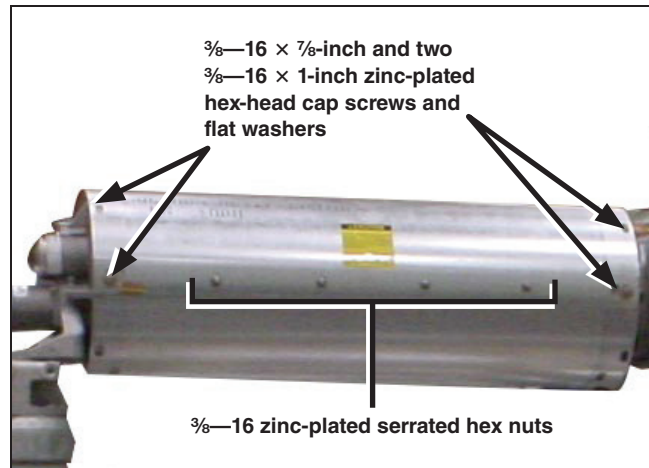

Figure 21. Removing the interrupter container.
- STEP 1.** Remove and discard the $\frac{3}{8}$ -16 zinc-plated serrated hex nuts which run the length of the container. See Figure 21. Remove and discard the $\frac{3}{8}$ -16 \times $\frac{7}{8}$ -inch and two $\frac{3}{8}$ -16 \times 1-inch zinc-plated hex-head cap screws and flat washers which attach the upper container-half to the coupling end casting of the interrupter. Also remove and discard the $\frac{3}{8}$ -16 \times $\frac{7}{8}$ -inch and two $\frac{3}{8}$ -16 \times 1-inch zinc-plated hex-head cap screws and flat washers which attach the upper container-half to the indicator end casting of the interrupter.